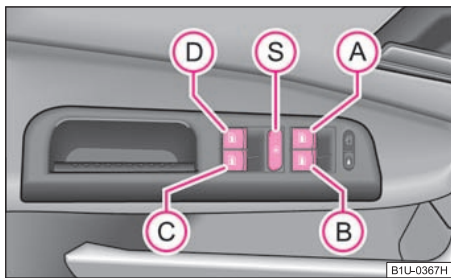

Fig. 41 Buttons on the driver's door
The buttons for the individual windows are located in the armrest of the driver's door ⇒ fig. 41, front passenger door and in the rear doors\*.
You can deactivate the buttons for power windows at rear doors by pressing the safety pushbutton (S) ⇒ fig. 41. The buttons for power windows at rear doors are activated again by pressing the safety pushbutton (S) again.
- It is recommended to deactivate the electrically operated power windows in the rear doors (safety pushbutton) (S) ⇒ fig. 41 when children are being transported on the rear seats.